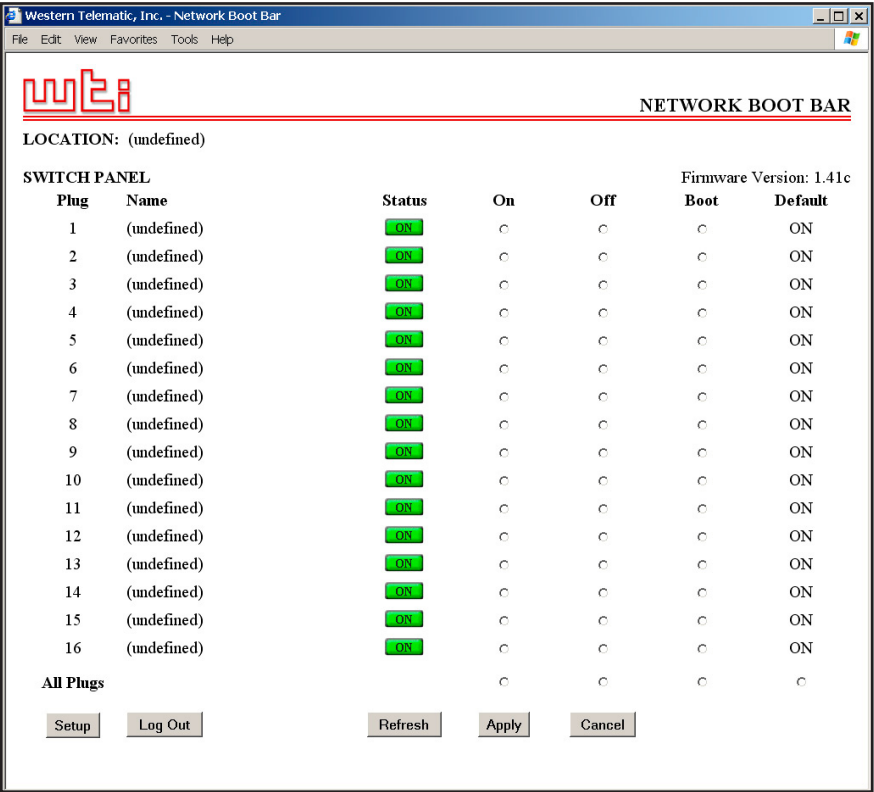

Figure 3.1: Plug Status Screen - Web Browser Interface
- a) **Web Browser Interface:** Start your JavaScript enabled Web Browser. Enter the NBB's default IP address (192.168.168.168) in the address bar, then press **[Enter]**. A password prompt will be displayed. Since at this point, the username and password have not been defined, you can simply click OK without entering a username or password. The Plug Status Screen will be displayed as shown in Figure 3.1.